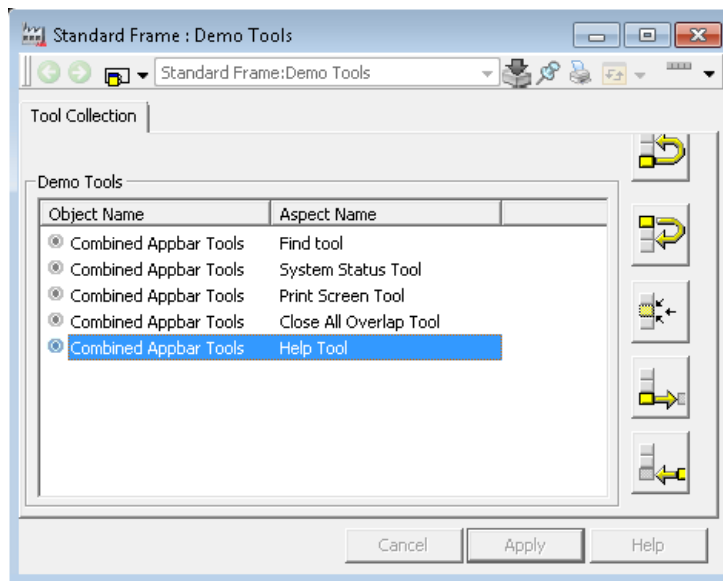

Figure 19. Collection of tools
8. Click  to add the required tools available in the **Library Structure > Tools**. See Figure 19.